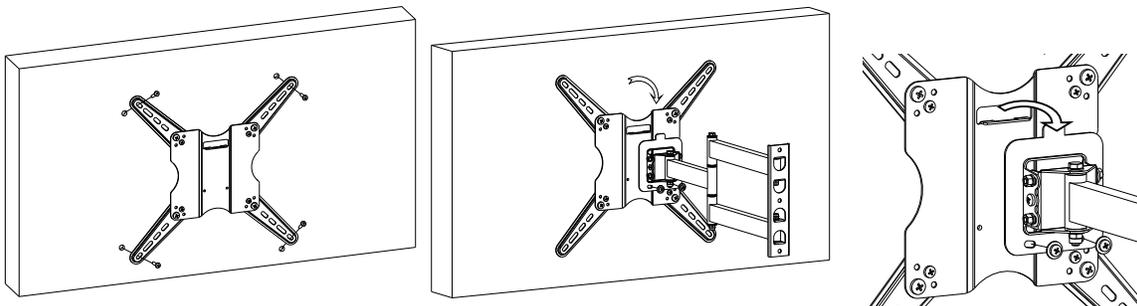

Figure 14
8. Fix the Hook Plate and Extension Bars to the back of the TV Display by connecting the proper screw (S3/S4/S5) into the VESA holes. Select the proper washer (W1/W2/W3) to be used with the screws. Figure 14.
9. Lift the TV Display (with the Hook Plate firmly attached to the back) and slide the Hook Plate in place on the Swing Arm (Figure 14). Replace the securing screws that were removed in Step 6.